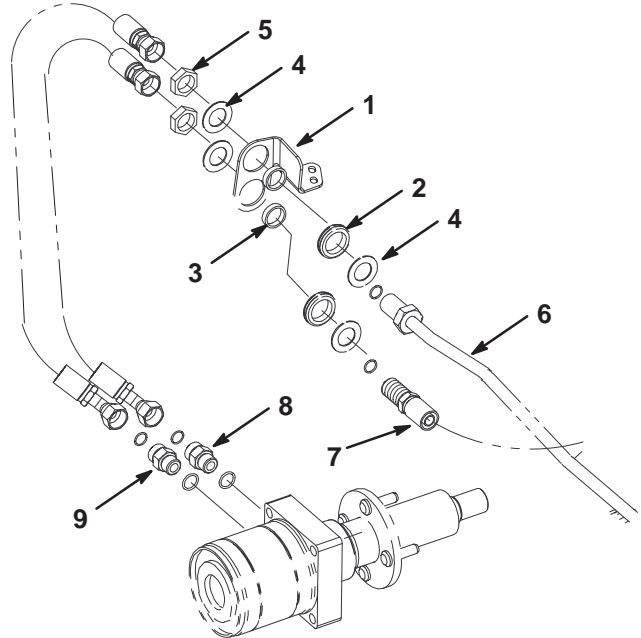

Figure 5
5. Install grommets and spacers to bulkhead bracket as shown in Figure 5.
6. Assemble bulkhead bracket to hydraulic hard line with nuts and washers, supplied in kit, as shown in Figure 5.
9. Mount bulkhead bracket to frame with (2) hex-head thread-forming screws.
10. Loosely install the pump hose assembly to the 45° fitting on pump and to the lower hole in bulkhead bracket with a washer and a nut (Fig. 5 & 7).
12. Loosely install a hydraulic hose to the pump hose assembly (lower bulkhead) and to upper wheel motor fitting (Fig. 5).